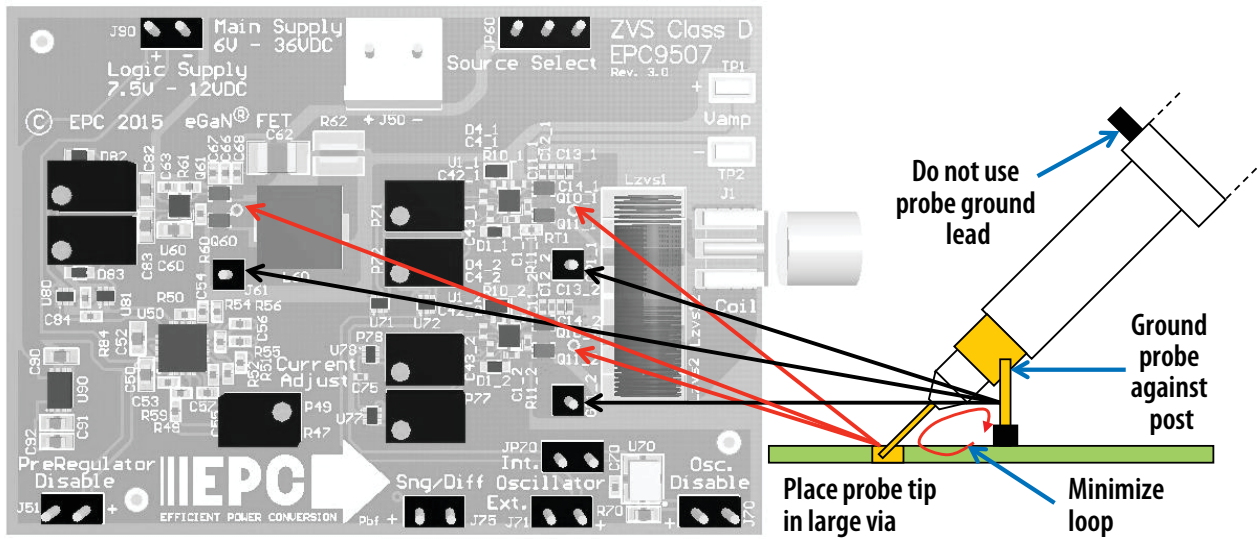

Figure 3: Proper Measurement of the Switch Nodes Using the Hole and Ground Post
3. Connect a LOW capacitance oscilloscope probe to the probe-hole J2 between the two eGaN FETs Q10_x and Q11_x and lean against the ground post as shown in Figure 3.
NOTE. When measuring the high frequency content switch-node (Source Coil Voltage), care must be taken to avoid long ground leads. An oscilloscope probe connection (preferred method) has been built into the board to simplify the measurement of the Source Coil Voltage (J2 and J3 as shown in Figure 3).